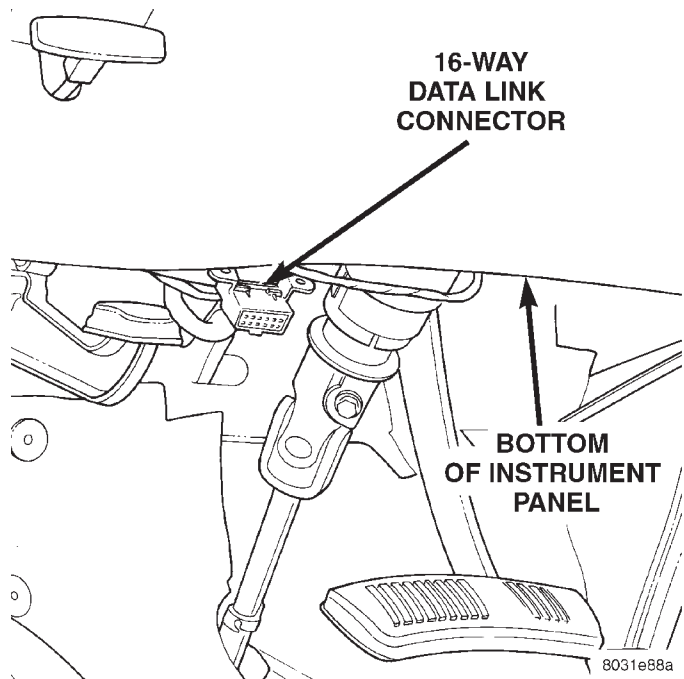

Fig. 1 16-Way Data Link Connector - Typical
(1) Connect the DRB scan tool to the 16-way data link wire harness connector. The connector is located on the driver side lower edge of the instrument panel, outboard of the steering column (Fig. 1).